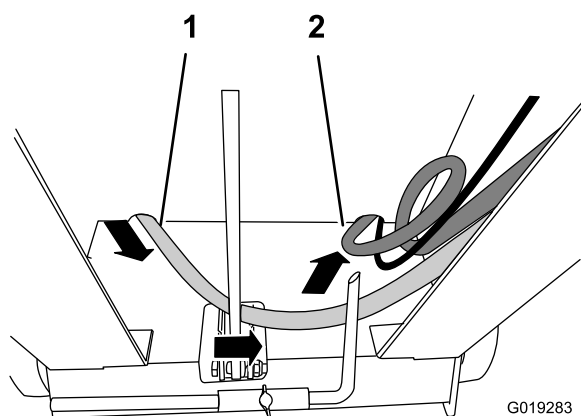

Figure 31
- A. Push the water hose in through the opening at the bottom-forward corner of the console (Figure 31).
- B. From inside the console, push the water hose out through the opening at the bottom-forward corner of the console on the opposite side (Figure 31).